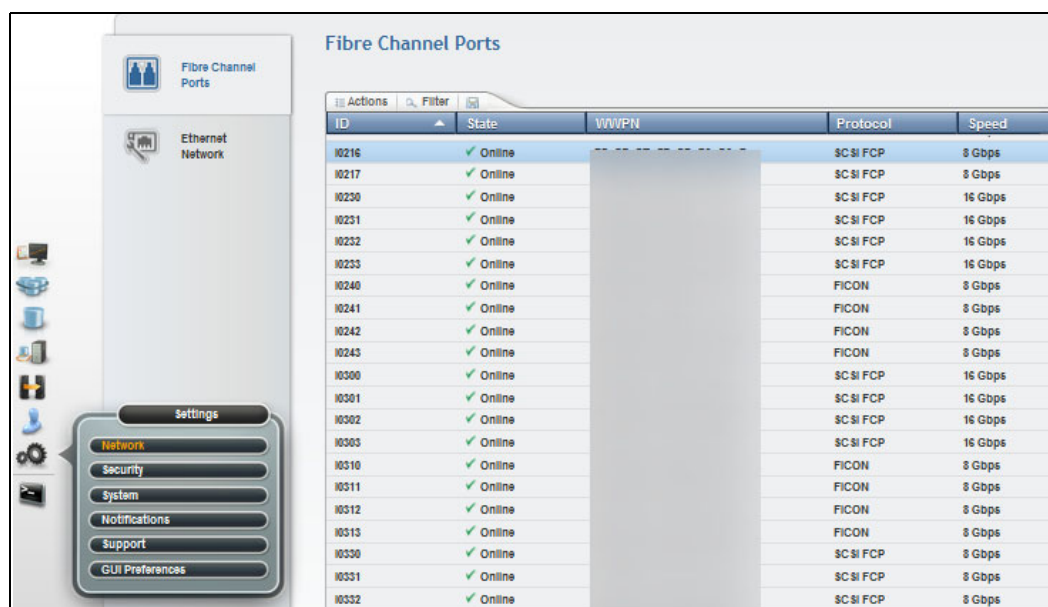

Figure 11-62 Modify Fibre Channel Port Protocols window
1. From the Storage Management GUI left menu, click the **settings** menu and select **Modify Fibre Channel Port Protocols** to open the Fibre Channel Ports window (Figure 11-62).